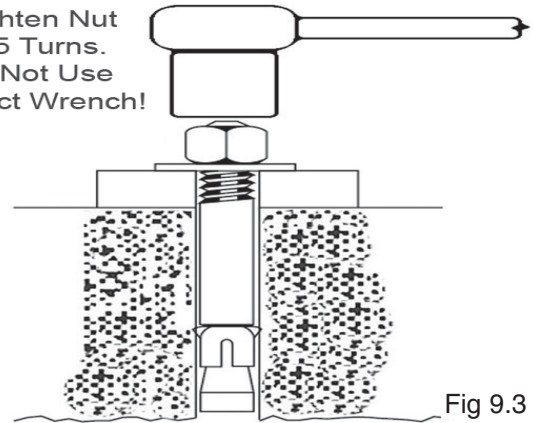

Fig 9.3
5. With the shims and Anchor Bolts in place, tighten nut three to five turns past finger tight. DO NOT use an impact wrench for this procedure. (See Fig. 9.3)